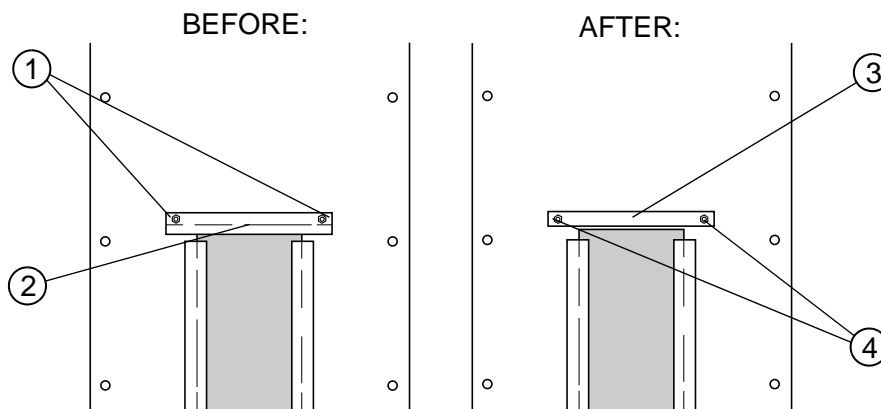

Fig. 2 Underneath the lid
1. Remove the nuts and the washers on the bottom side of the base plate cover (1/ Fig. 2).
2. Remove the z-shaped stop bracket (2/ Fig. 2).
3. Mount the new stop bracket (3/ Fig. 2) which is included in the kit. Fasten the nuts (4/ Fig. 2).